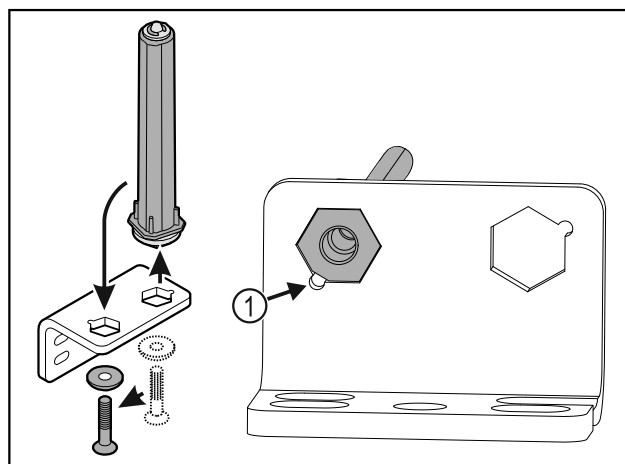

Fig. 38
- Make sure the pin chamfer Fig. 38 (1) faces the round hole when you put it in.